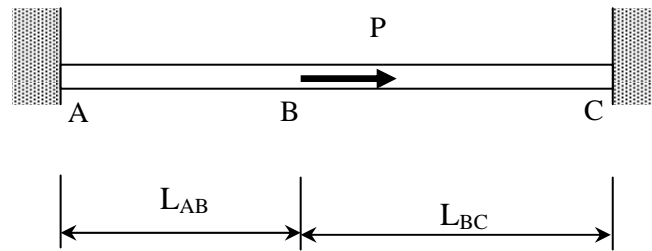

Figure 1
1. (a) State the equation needed to be used together with equilibrium equations to solve a statically indeterminate problem. Write the corresponding equation for the case of a fixed-fixed bar subjected to point load P at B as shown in Figure 1. Explain clearly the meaning of symbols used.